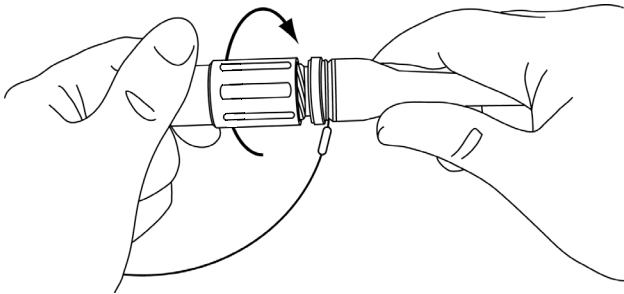

Figure 12: Attaching the soaking cap to the cable connector
- Twist the cap onto the connector (see Figure 12).